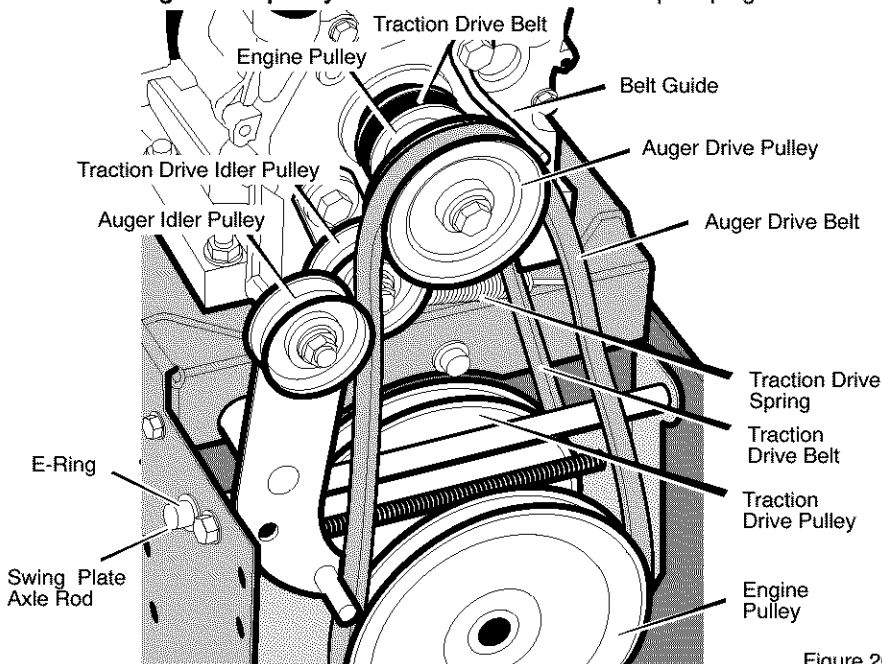

Figure 26
3. Loosen nut on auger idler pulley and move auger idler pulley towards belt about 1/8 inch (3 mm) (see Figure 26).
- Loosen the **belt guide**. Pull the **belt guide** away from the **auger drive pulley** (see Figure 26).
3. Remove the **e-ring** from one end of the **swing plate axle rod**. Remove the **swing plate axle rod** to allow the swing plate to pivot forward (see Figure 26).